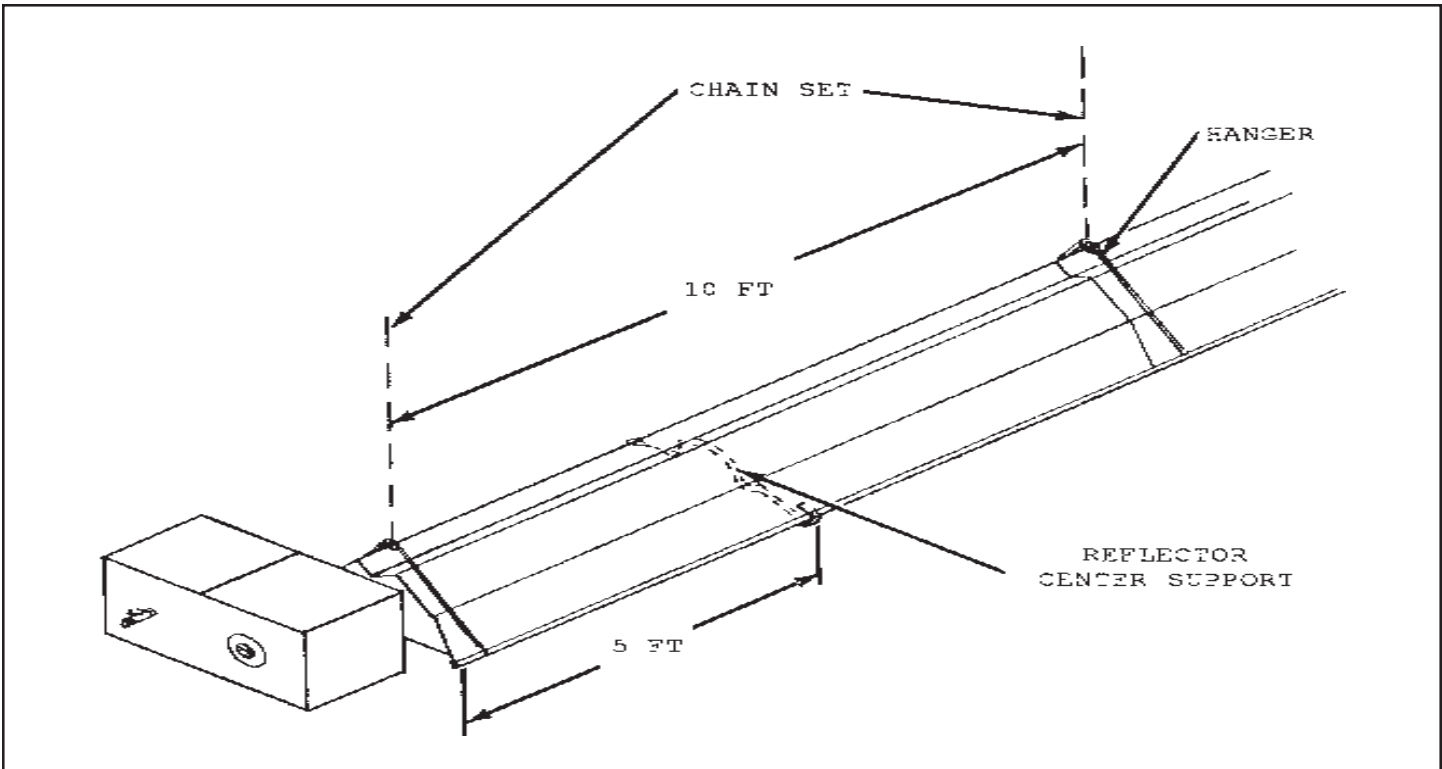
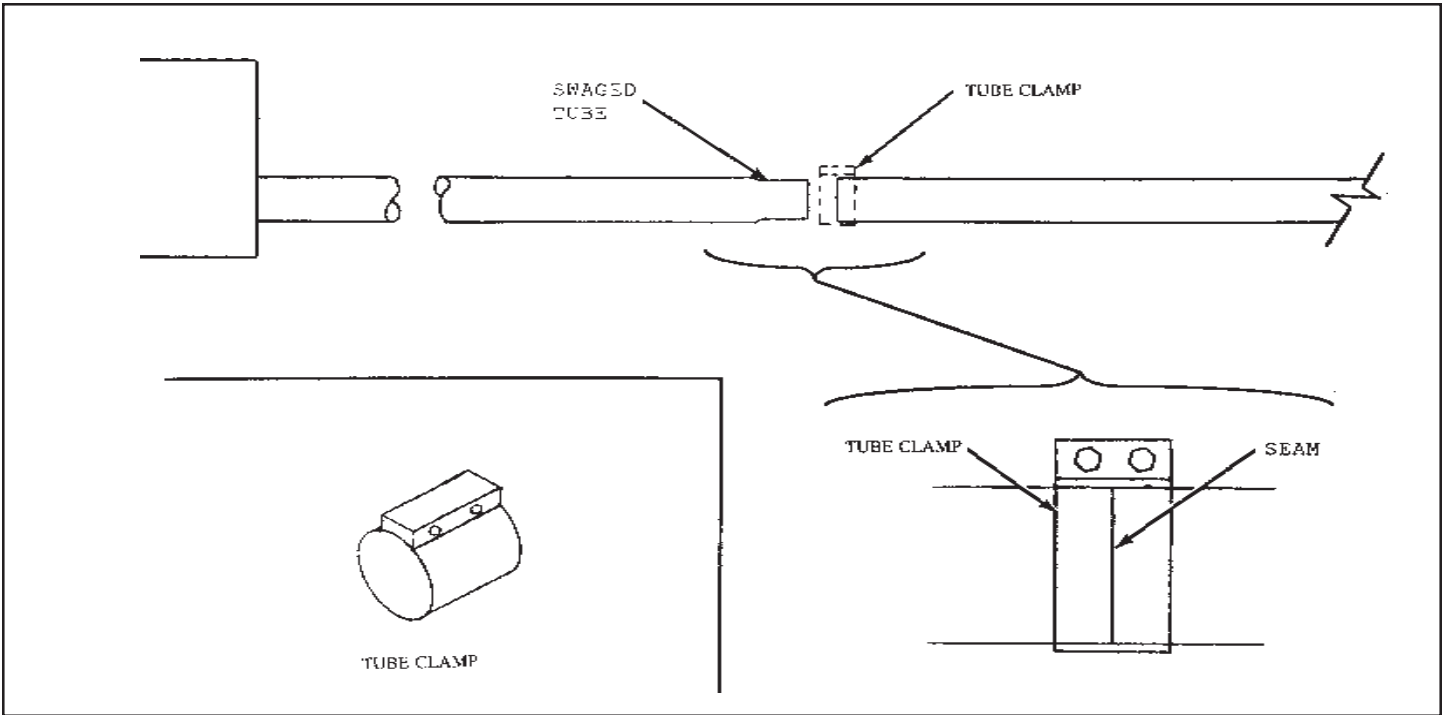

Figure 2.11
Figure 2.12
6. Starting at the vacuum pump, mount hangers on approximately 10 ft. centers (see Figure 2.11). Slide tubes through hangers and fasten with butt clamps (see Figure 2.12). For ease of installation, it is recommended that reflectors be mounted with each tube as it is installed (see instructions on reflector assembly).
1. Mount reflector center support at halfway point on first 10 ft. of tube for each burner (see Figure 2.11).